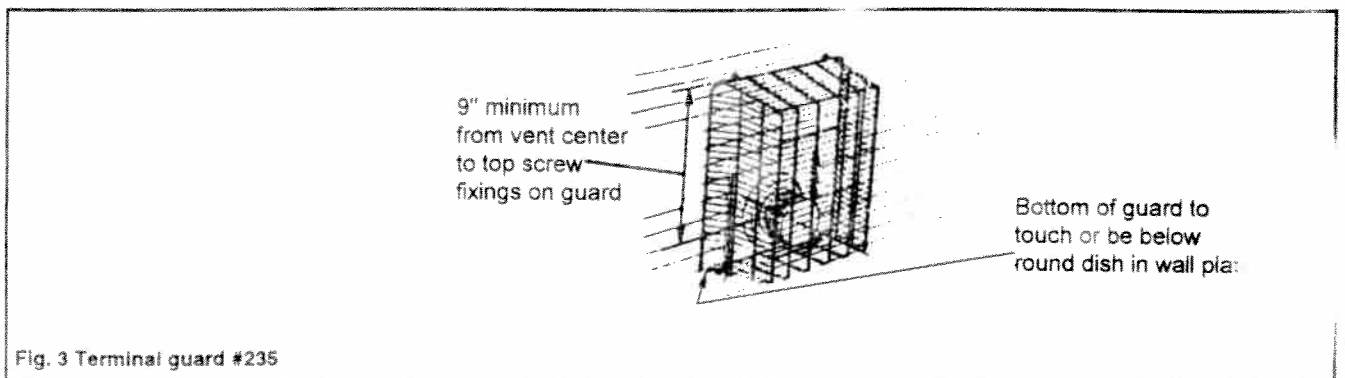

Fig. 3 Terminal guard #235
- 4.11 **Warning:** If the outside vent terminal is located where it will be accessible to any person, a gas cap must be fitted over the terminal to prevent damage and to prevent it being touched. The vent terminal becomes very hot when the appliance is in use and can cause burns. A special guard designed for this appliance is available from your supplier - Ask for Valor part #235 (See figure 3).